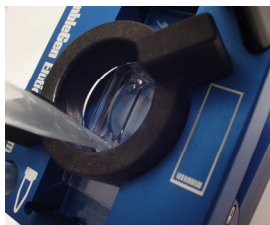

Figure 16: Tilting the Elution System and Loading Sample into the Elution Chamber
5. Using its handle, tilt the top of the Elution System until it locks into the upright position. Slowly pipette the freshly made 125mM NaOH into the bottom (filling) port of the Elution Chamber (Figure 16).
Important: Do **not** tilt the Elution System without a pipette tip placed in the filling port or the 125mM NaOH will leak out (Figure 16).